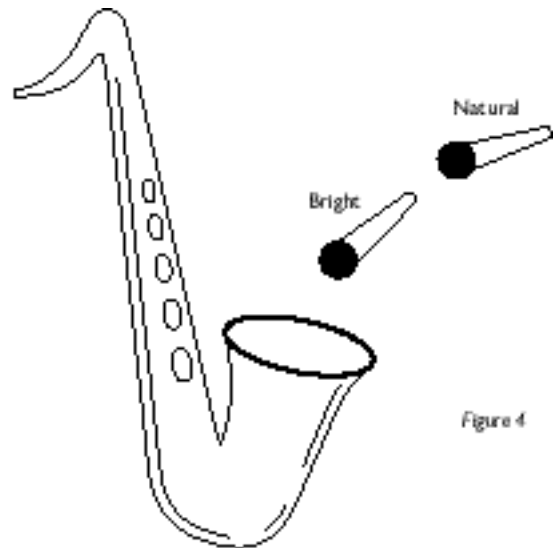

Figure 4
- Place a CM-700, CM-150, or GLM-100 18 inches away, a few inches above the bell, toward the player's right side (Figure 4).